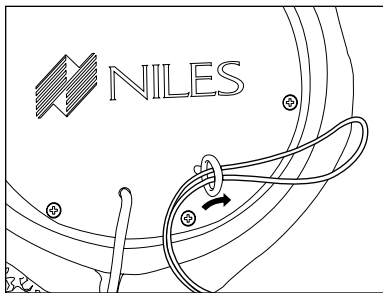

Figure 8 Security Cable in Eyelet
- Take the nylon security cable, supplied with the loudspeaker and fold it in half. Using the middle of the cable, feed it through the Security Attachment Eyelet as shown in **Figure 8**.